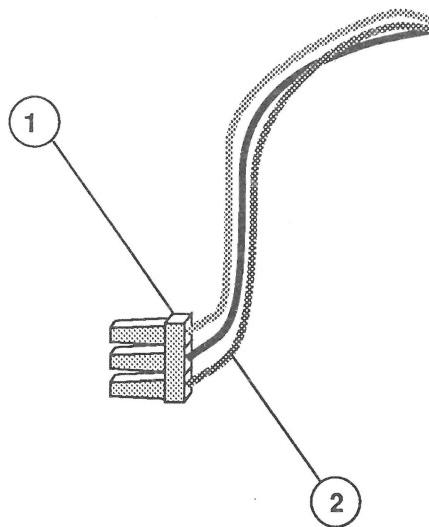

FIGURE 7
1. Locate the AC IN connector (Figure 7, #1) that you removed from the line filter board.
- a) Using small wire cutters, clip off the green AC IN ground wire close to the connector (Figure 7, #2).
1. Locate the green ground wire that you desoldered from the customer's filter board, and solder the wire to the replacement filter board at the solder point (Figure 7, #4) above the marking "OUT GND."